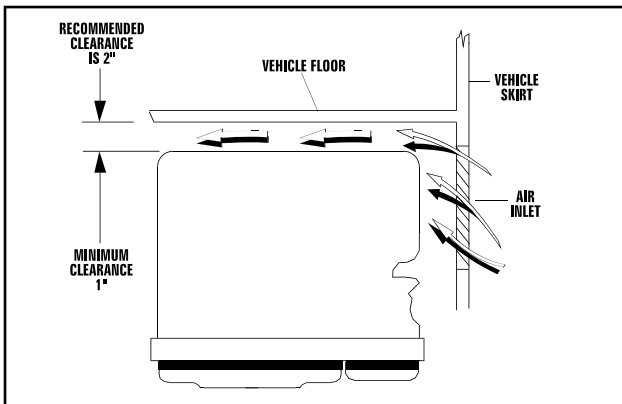

Figure 5 — Air Inlet in Vehicle Skirt
- By providing an opening in the vehicle skirt and space above the generator for cooling air flow (Figure 5 on next page). Recommended clearance above the top of the generator is at least 2 inches.